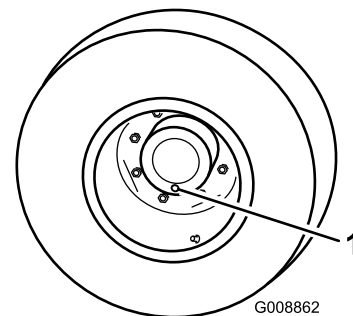

Figure 63
1. With machine on level surface, position a wheel so one of the check/drain plugs is at the lowest (6 o'clock) position (Figure 63).